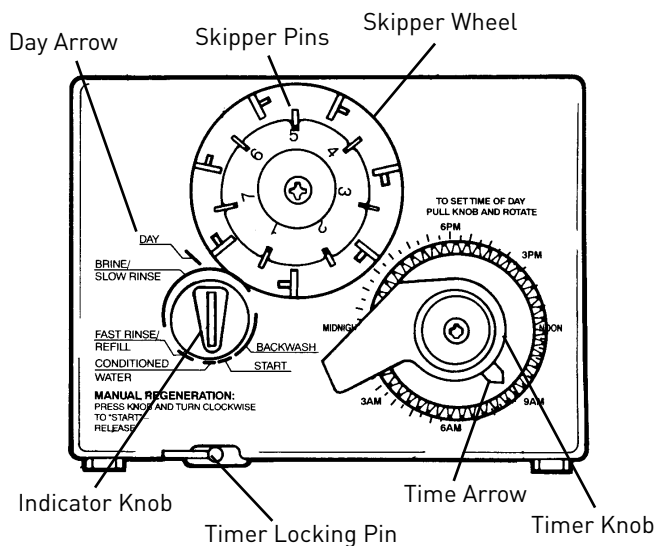
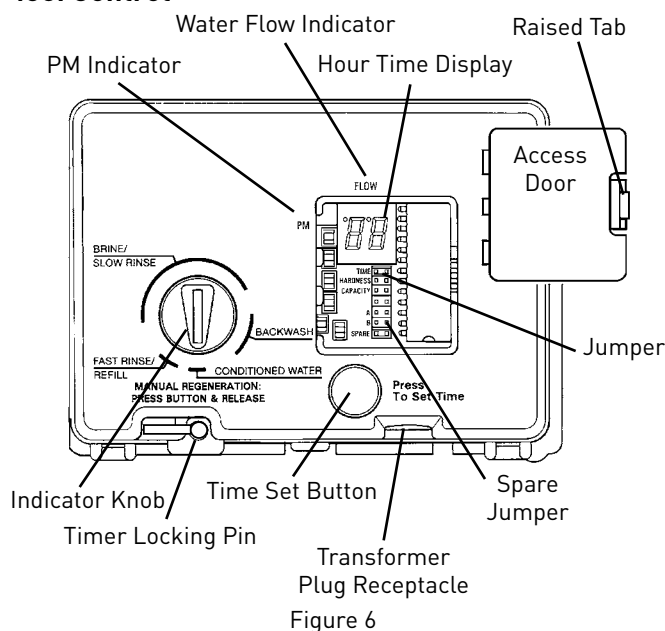

Figure 5
Figure 6
NOTE: The following steps will require turning the indicator knob (Figure 5 and Figure 6) to various positions. Manually rotate the camshaft **COUNTERCLOCKWISE** only until indicator knob points to desired position. See manual regeneration sections for each control's manual operation.
- Set days of regeneration on skipper wheel (Figure 5).
NOTE: The Timer Locking Pin should always be horizontal (Figure 5) during operation.
Open the access door by pushing the raised tab on the door toward the left while pulling the tab out (Figure 6).
NOTE: The Timer Locking Pin should always be horizontal (Figure 6) during operation.
When abnormally high water usage exhausts your water conditioner's capacity ahead of schedule, an extra regeneration can be achieved. Depress the indicator knob on the 440i (Figure 5) with a wide-blade screwdriver and turn **COUNTERCLOCKWISE to START** to initiate a regeneration. For the 460i, simply depress the indicator knob (Figure 6). It will take a few minutes for regeneration to start. A normal regeneration will take approximately two hours.
Electricity is used only to run the control and to rotate the camshaft. All other functions are operated by water pressure. Therefore, in the event of a power outage, all the regeneration positions may be dialed manually by depressing the indicator knob and turning **COUNTERCLOCKWISE** (Figure 5 and Figure 6). The following cycle times should be used for proper regeneration: